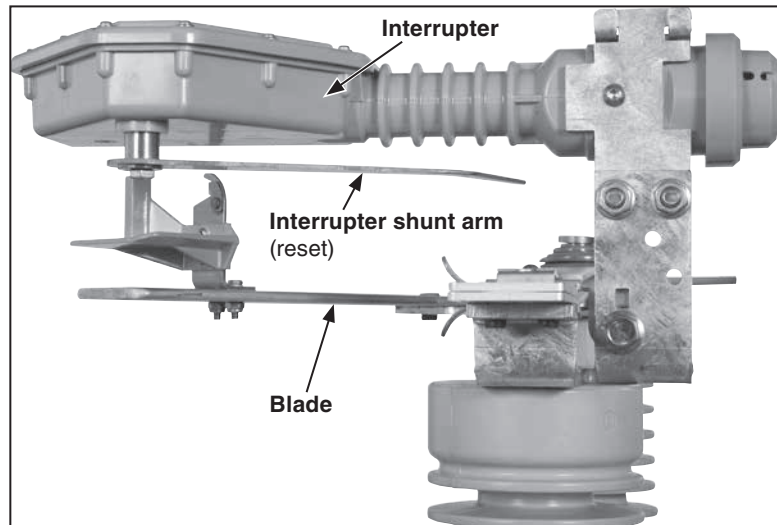

Figure 25. Interrupter and interrupter shunt arm is parallel to the sweep of the blade.
- a. Open and close the switch and examine the interrupter and blade alignment. The interrupter and interrupter shunt arm must be parallel to the sweep of the blade. See Figure 25.
- When the blade reaches its full travel the interrupter shunt arm will be released and will quickly snap back to its closed position and reset for the next operation. See Figure 25.